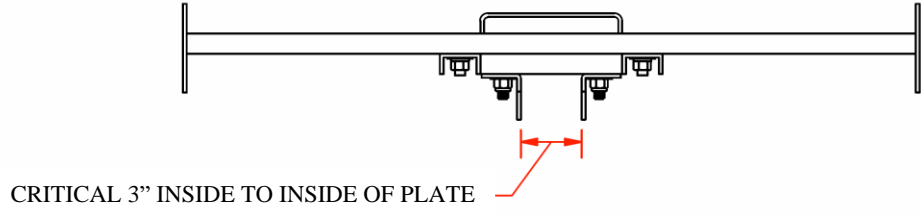
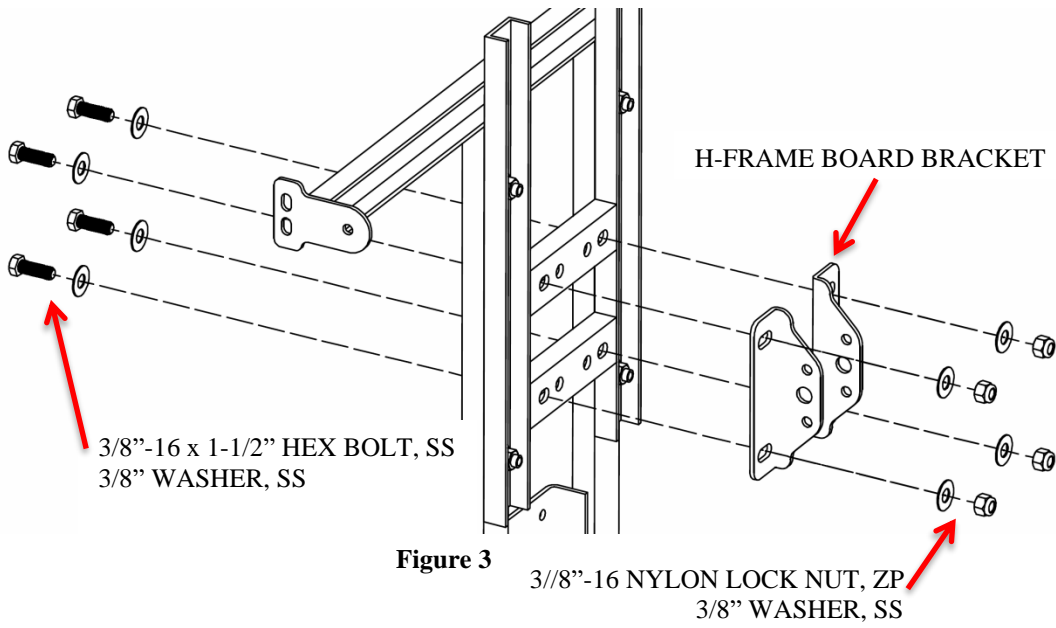

Figure 4
Figure 3
3. Attach H-Frame board bracket to the inner H-Frame slot channel holes. Use 1/2" hex bolt hardware as shown (Figure 3). Set the distance between brackets to be 3-3/8" as shown (Figure 4). Do not tighten hardware.